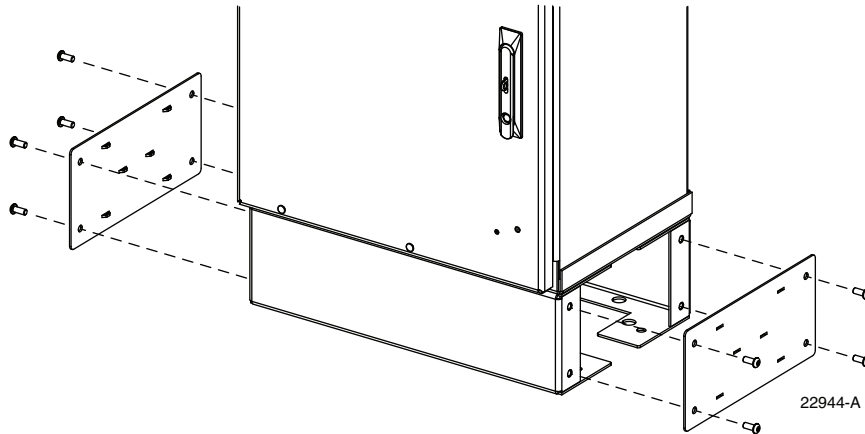

Figure 7. Removing Side Access Covers From Ground spacer/riser
1. Use a 3/16-inch hex-key to remove the screws that secure the access covers to the left and right sides of the cabinet spacer/riser as shown in Figure 7.